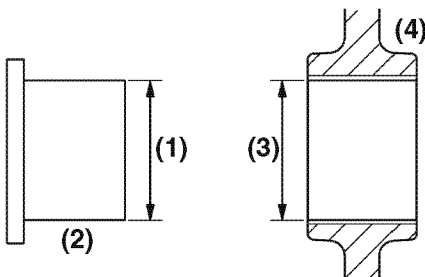

Figure 6-79
1. Measure the outside diameter (**Figure 6-79, (1)**) of the idler gear shaft (**Figure 6-79, (2)**). Record the measurements. *See Idler Gear Shaft and Bushing on page 6-8 for specifications.*
2. Measure the inside diameter (**Figure 6-79, (3)**) of the idler gear bushing (**Figure 6-79, (4)**). Record the measurements. *See Idler Gear Shaft and Bushing on page 6-8 for specifications.*